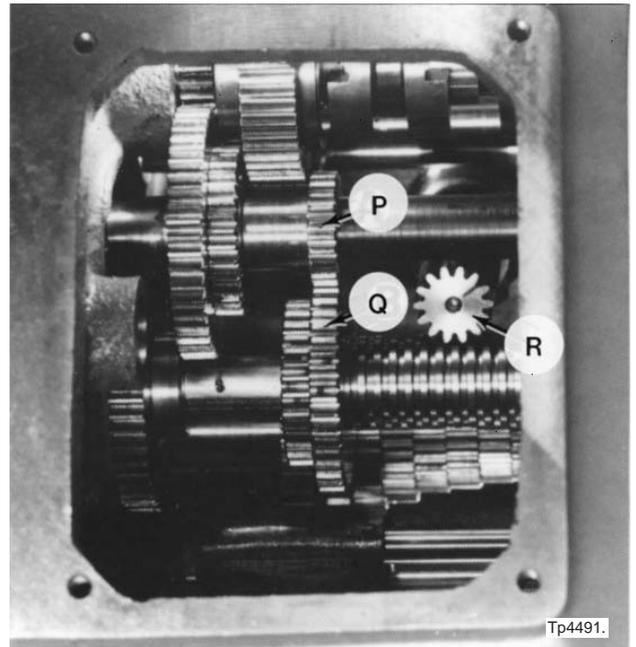

Figure 4.35 - Checking Three Change Gear Position
22. Check gears "P", Figure 4.35, and "Q" to be sure they mesh properly.
24. Position gears "P", Figure 4.35, and "Q" as shown.